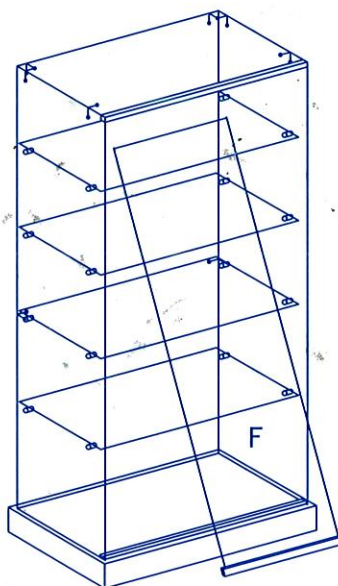

FIG. 5
- FIG. 5 INSERER LA PORTE COULISSANTE (F) DANS LE RAIL EN ALUMINIUM SUPERIEUR MONTE' DANS LE TOP (D), EN LE POUSSANT AVEC ATTENTION DU BAS VERS LE HAUT, EN LE FIXANT EN SUIITE DANS LE LOGEMENT DU RAIL INFERIEUR.
- FIG. 5 FIT THE SLIDING DOOR (F) INTO THE ALUMINIUM RAIL ASSEMBLED ON THE TOP (D) PUSHING IT CAREFULLY FROM THE BOTTOM UPWARDS, SEATING IT THEN INTO THE LOWER ALUMINIUM RAIL.
- FIG. 5 STELLEN SIE DIE GLASTUR (F) IN DER ALUMINIUMGLEITUNG, DIE ANS DECKEL (D) MONTIERT IST. DIE EINFUGUNG MUSS VON OBEN NACH UNTEN SEIN, MIT DER UNTERBRINGUNG IN DER UNTEREN GLEITUNG.
- FIG. 5 INSERTAR LA PUERTA DE CORREDERA (F) EN LA GUIA DE ALUMINIO MONTADA EN EL TECHO (D), EMPUJANDO CON ATENCION DE ARRIBA ABAJO POR INSERTARLA EN LA GUIA INFERIOR.
- FIG. 5 INSERIRE NELLA GUIDA INTERNA DEL PROFILATO IN ALLUMINIO APPLICATO AL CAPPELLO (D) LO SCORREVOLE (F), FORZANDO CON CAUTELA DAL BASSO VERSO L'ALTO, QUINDI APPOGGIARLO NELLA SUA SEDE DEL BINARIO INFERIORE.